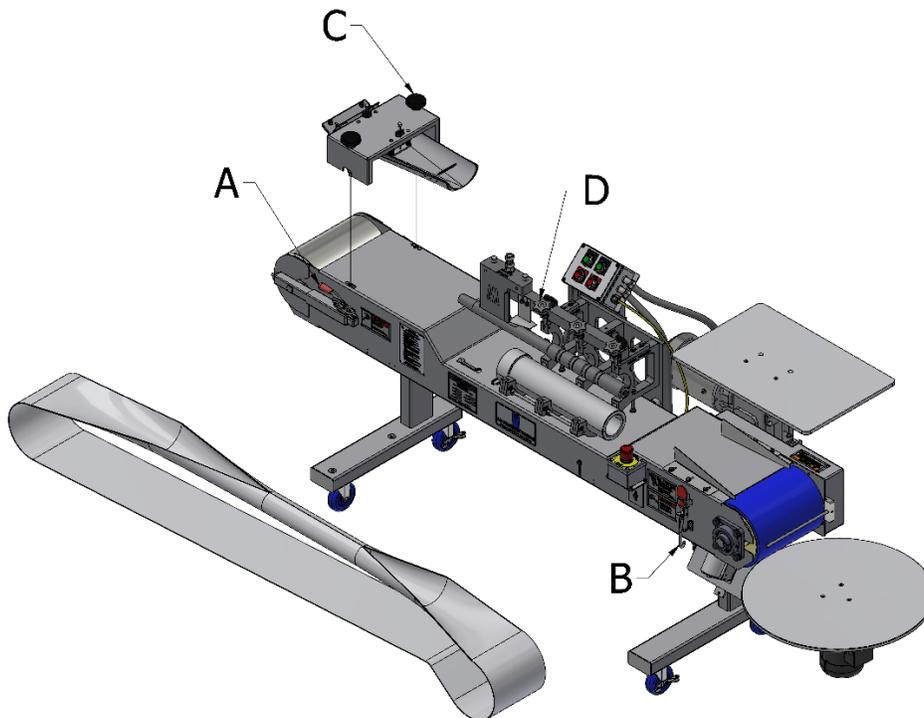

Figure 2: Belt Removal
- A. Lift the two red handled clamps (Figure 2, A.) on the drive roller end and push the drive roller inwards.
- B. Locate the red handled swing plate latch on the opposite end (Figure 2, B).
- C. Locate the two black knobs on top of the pressure plate bridge (Figure 2, C).
- D. Locate the three (3) star knobs on the mandrel support area (Figure 2, D).
The bagel belt must be properly installed, aligned, and tensioned for the belt to track in the center of the rollers and to prevent premature wear. If reinstalling the bagel belt, perform the previous section for Figure 2 in reverse.
1. The hex nuts found at the very end of the lifting clamps in Figure 2, A are used to adjust the tension.